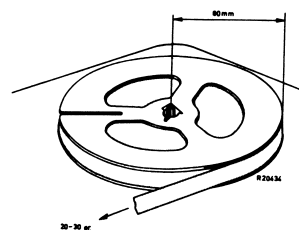

Fig 32a
- The force with which the winding friction 166 pulls the tape should be 20-30 grammes, measured with a reel with 120 mm tape (full 5" reel), see fig. 32a and at 9.5 cm/sec ($3\frac{3}{4}$ " / sec) tape speed.